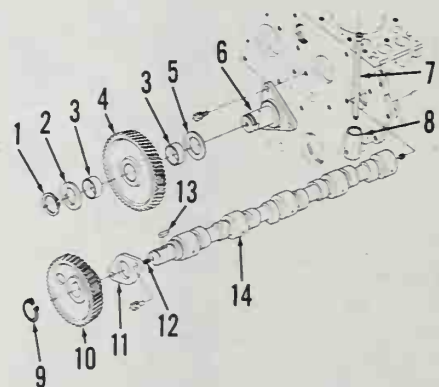

Fig. K3-25—Exploded view of camshaft and idler gear assemblies.
R&R AND OVERHAUL. To remove camshaft, remove cylinder head and timing gear cover as previously outlined then remove tappets. Unscrew camshaft retainer plate (11 - Fig. K3-25) and withdraw camshaft from cylinder block. If necessary, press camshaft gear (10) off camshaft.